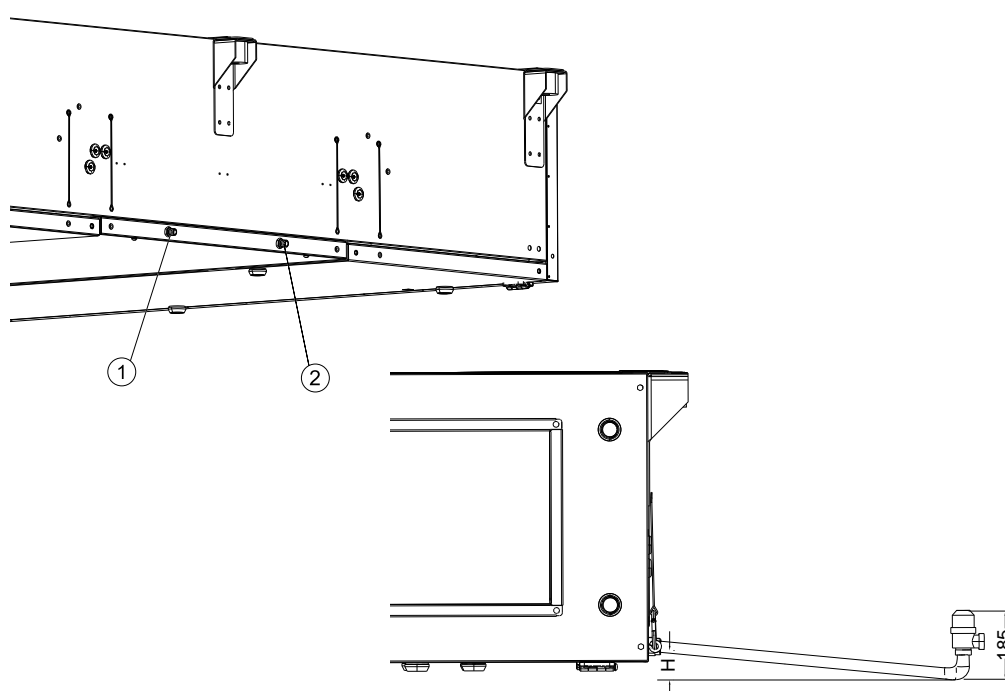

Fig. 3 Drainage connection, right hand unit
The unit must be connected to the condensation drain. A transition, tube and drain trap are enclosed upon delivery. Connect the drainage on the units extract side (pos 2, figure 3). The drainage on the supply side (pos 1) must be connected if the unit will be used with cooling equipment or if it will run extensively where the outdoor climate is very humid. On left hand units the positions of the connection are reversed.